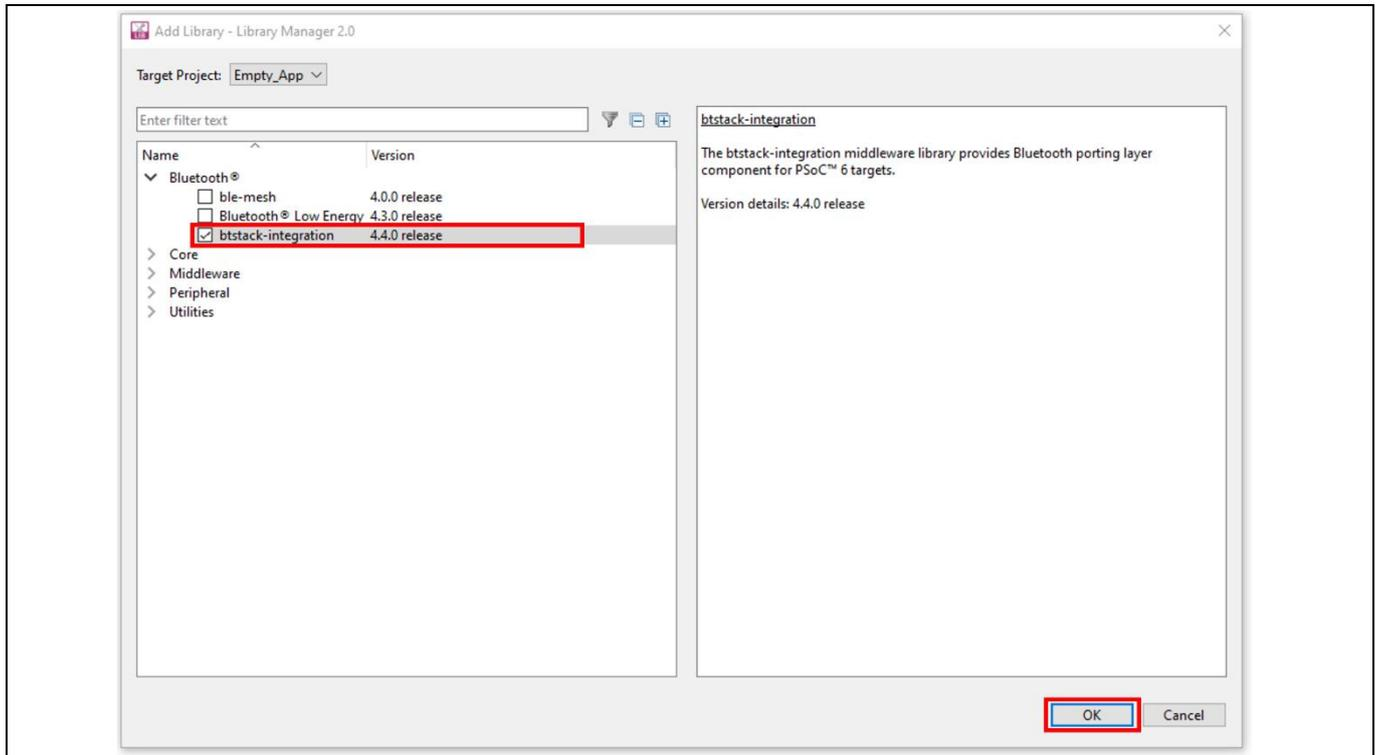

Figure 17 Add btstack library and btstack-integration middleware
- Next, you add the AIROC™ BTSTACK, which is a software implementation of the Bluetooth® core 5.4 Host protocol stack. AIROC™ BTSTACK requires a porting layer specific to the device that it is running on. Therefore, you will add the btstack integration porting layer, which sets up the physical transport required for HCI traffic, memory, threads, and other OS constructs required by the stack library. Click on **Add Library** and select **Bluetooth® > btstack-integration** (see Figure 17 for this option). Note that selecting *btstack-integration* selects the required version of **btstack**. Do not have to explicitly select *btstack* unless a specific version is required. Along with *btstack-integration* also adds dependency libraries **abstraction-rtos** and **freertos**. The files necessary to use the btstack integration middleware are added in the *mtb_shared > btstack-integration* folder and the *.mtb* file is added to the *deps* folder.